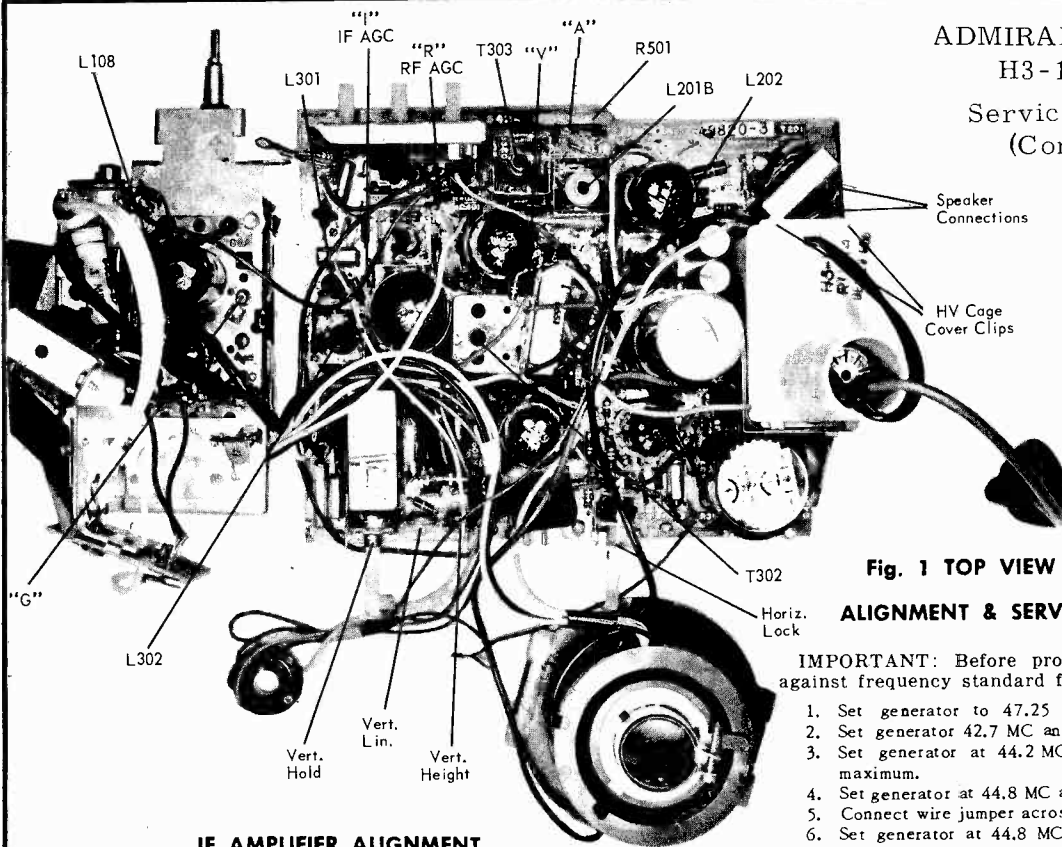

Fig. 1 TOP VIEW OF CHASSIS SHOWING ALIGNMENT & SERVICE ADJUSTMENT LOCATIONS
Connect isolation transformer between AC line and receiver. Connect negative of 6 volt bias supply to test point "I" (IF AGC), "R" (RF AGC) positive to chassis. See figure 1.
1. Set VHF Channel Selector on channel 12. Connect negative of -6 volt bias supply to test point "R" (IF AGC) and -1.75 volt to test point "I" (RF AGC) positive to chassis. See figure 1.
1. Tune in normal picture on strongest TV station. Allow about 15 minutes for set to warm up. See figure 1 for adjustment locations.